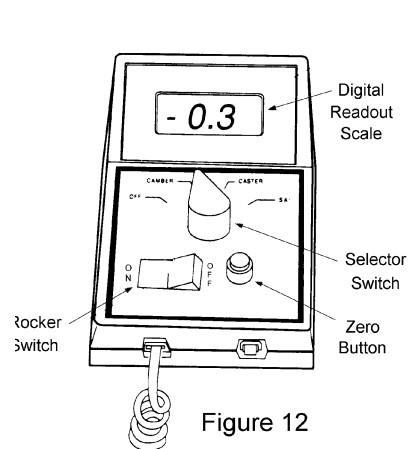

Figure 12
- 6) Set the selector to CAMBER and press the switch to ON (See Fig. 12).
- 7) Read Camber on the Digital Readout Scale (A negative 0.3 is indicated in Fig. 12). The numeric read out will be preceded by a + or - to indicate positive or negative Camber.